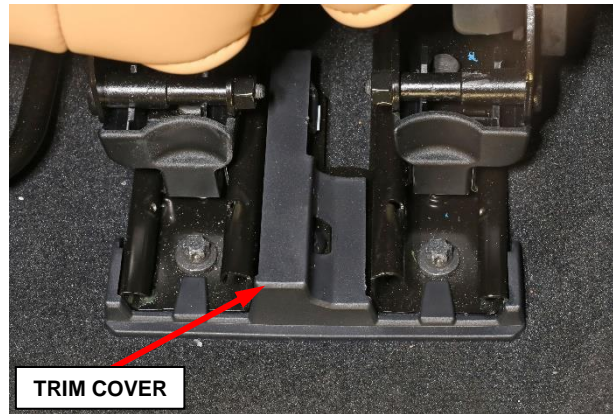

Figure 17 – Seat Track Trim Cover
11. Second row seats, remove the seat track front trim cover (Figure 17).